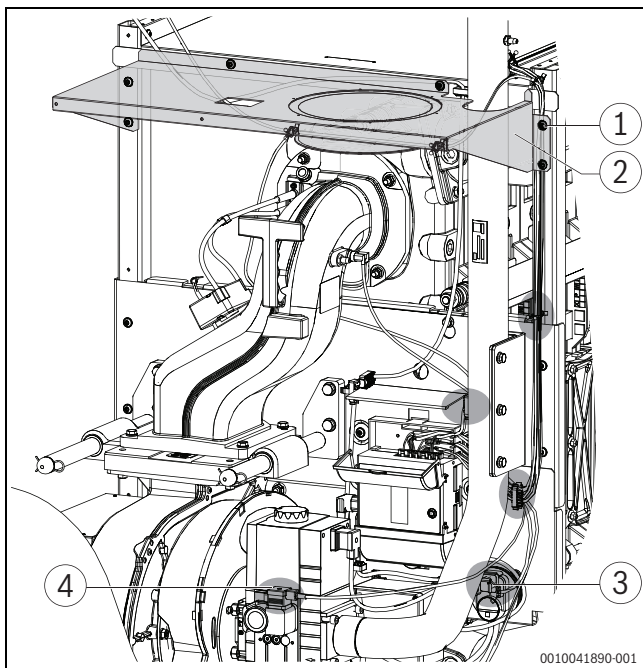

Fig. 7 Loosen the cable and remove the supporting plate
- Loosen the cable on the side and at the top of the supporting plate, and place on top of the boiler (→Fig. 7).
- Remove the 6 screws on the supporting plate for the air hose and take off the supporting plate (→Fig. 7, [1+2]).
- Unplug both plugs on the differential pressure sensor (→Fig. 7, [3]).
- Unplug the plug on the solenoid valve (→Fig. 7, [4]).